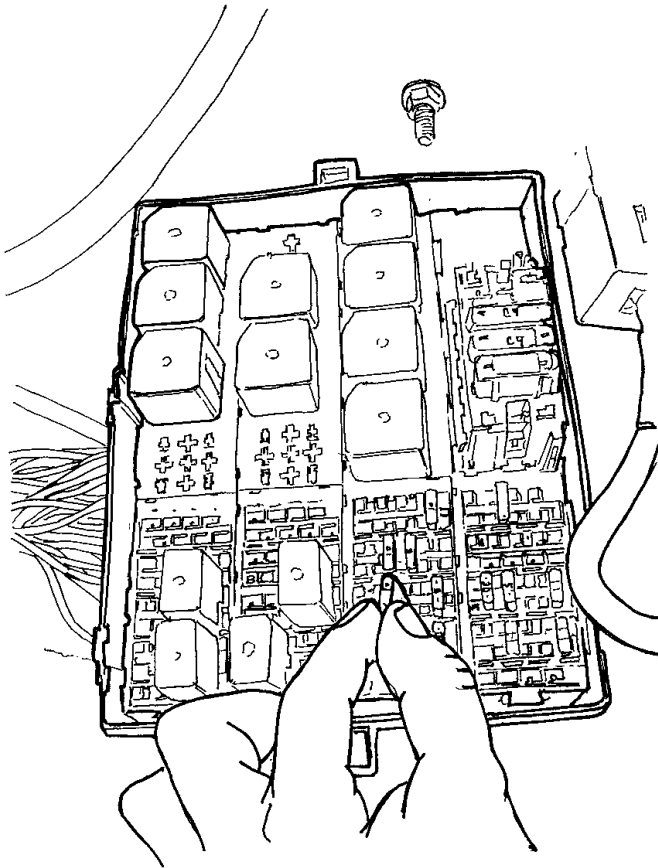

Figure 18 Install 5-Amp E.C.M. Fuse
20. Re-install the 5-amp E.C.M. fuse and a 20-amp fuse to power the wire just installed (Figure 18).